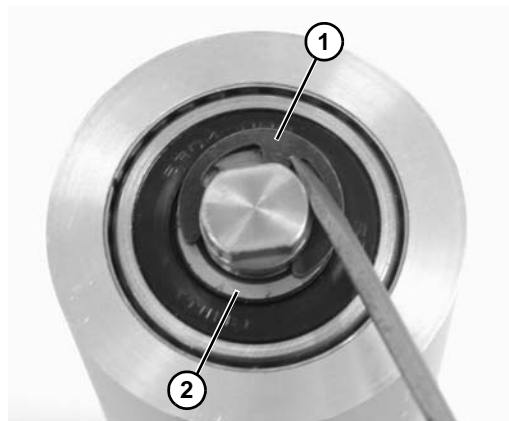

Figure 34
6. Remove the pulley shaft assembly: remove the clip ring (**Figure 34, item 1**) and washer (**Figure 34, item 2**) from one side of the pulley assembly.